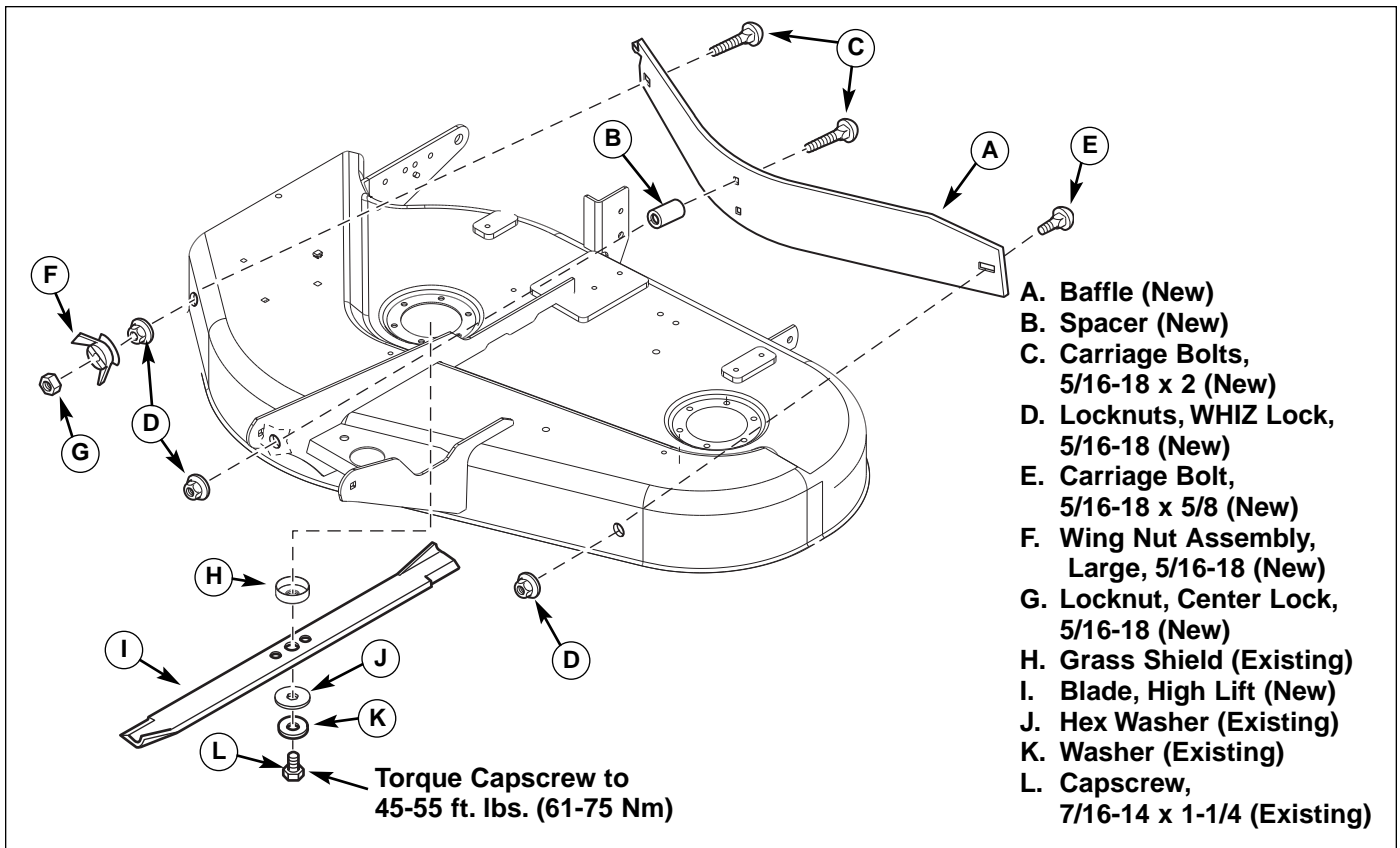
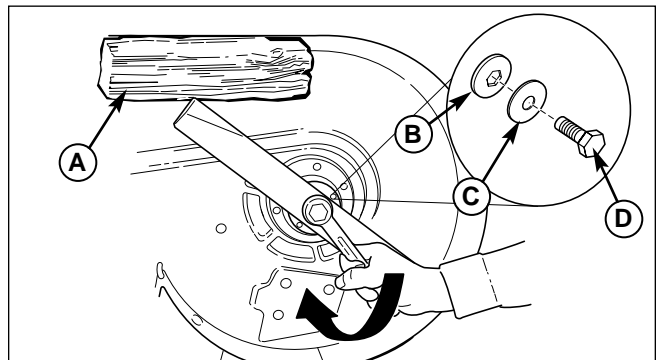

Figure 3. Baffle Assembly
Figure 5. Blade Installation Mowers
2. Install notched side of baffle (A, Figure 3) to discharge side of deck securing with 5/16-18 x 2 carriage bolt (C) and 5/16-18 locknut (D). Install 5/16-18 wing nut (F) and locknut (G) to carriage bolt (C) as shown.
3. Secure center of baffle (A) to deck using 5/16-18 x 2 carriage bolt (C), spacer (B) and nut (D). Secure LH end of baffle (A) to deck using 5/16-18 x 5/8 carriage bolt (E) and nut (D).
4. Remove right hand blade (A, Figure 5). Use a block of wood to prevent blade rotation while loosening the capscrew.